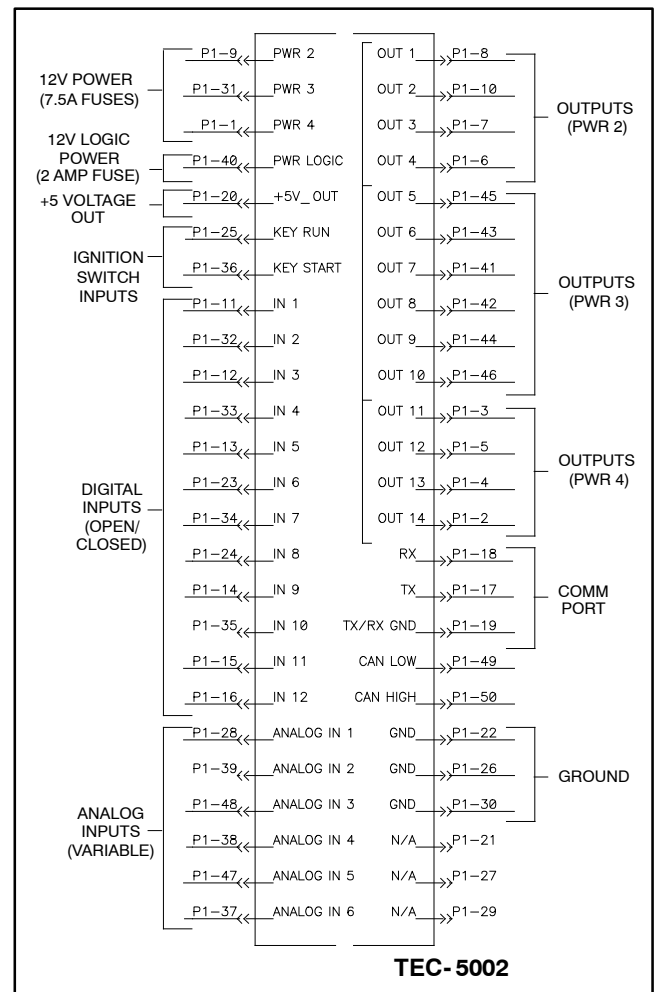
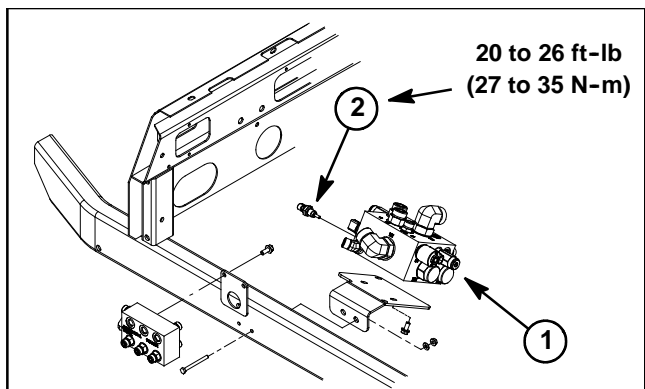

Figure 50
Figure 51
The machine electrical schematic and wire harness drawings in Chapter 9 - Foldout Drawings can be used to identify possible circuit problems between the controllers and the input/output devices (e.g. switches and solenoid coils). The connection terminal functions for the TEC controller is shown in Figure 50.
Two (2) identical temperature senders are used as inputs for the TEC controller to identify if either the engine coolant or hydraulic oil temperature has reached an excessive level. The coolant temperature sender threads into the radiator (Fig. 50). The hydraulic oil temperature sender is attached to the 4WD/2WD control manifold at the front of the machine (Fig. 51).